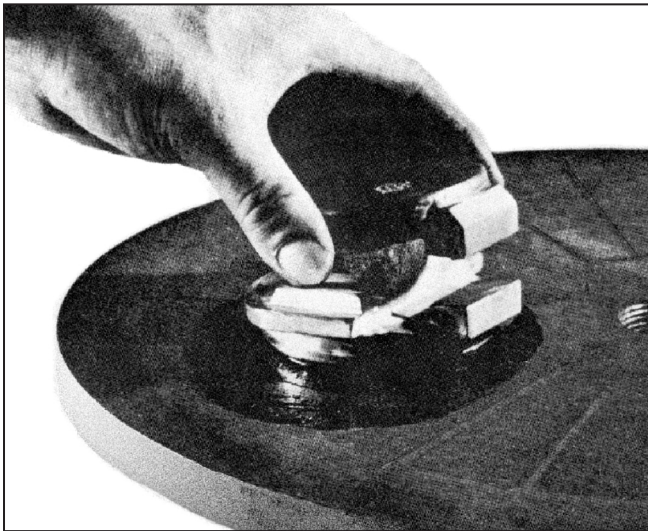

Figure 5.2A *Lapping of wedge*
3. For the lapping, a flat plate, preferably cast iron, should be used and an abrasive lapping compound mixed with olive oil should be evenly distributed over the plate as shown in *Fig. 5.2A*. Only light, even pressure should be applied to the plate, lifting the wedge or disc as often as possible to prevent accumulation of particles in one area and to allow for proper distribution of the lapping compound. The lapping plate should be turned slightly every few strokes to maintain a flat surface. The part should be lapped until seating faces are smooth. Velan recommends the use of Clover Compound (silicone carbide) grade "E" medium course and grade "C" fine grit compound for finishing or an approved equivalent.